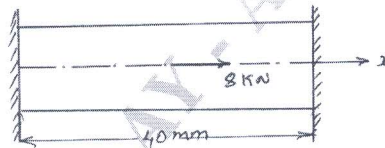

Fig. Q1 (c)
- c. Find the displacement at the mid point of a bar shown in FigQ1 (c), using Rayleigh Ritz method. Given $E = 70 \times 10^3 \text{ MPa}$, $A = 100 \text{ mm}^2$. Use 2nd order polynomial displacement model. (10 Marks)